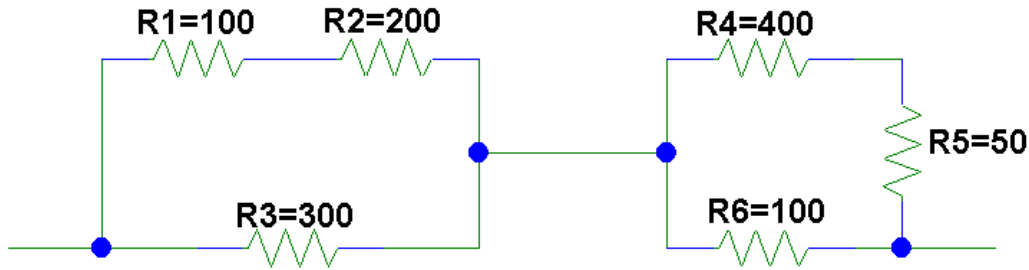

Figure 11: Resistor network for problem 3. All values in ohms.
5. Answer the following questions about the resistor network of Fig. 11